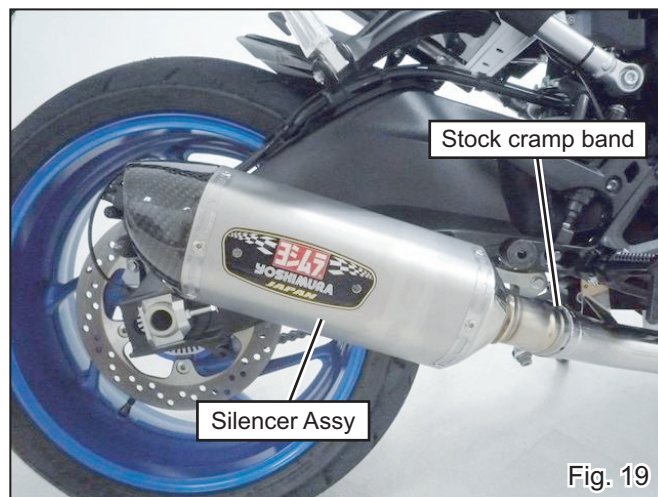

Fig. 19
- 17) Install Silencer Assy removed at step 2) with stock clamp band to Tailpipe. Tighten the bolt on stock clamp band by hand only at this stage. (See Fig. 19)